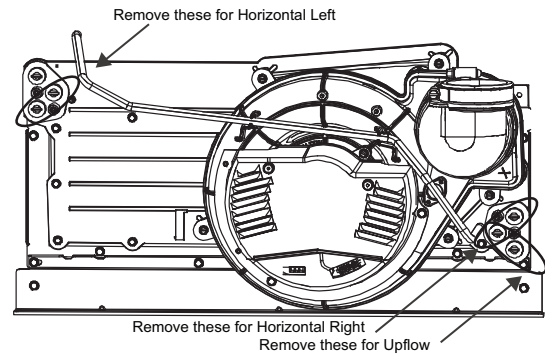

Fig. 13 – Drain Plugs
- Remove two of the factory-installed drain plugs from collector box. Orientation specific drain plugs, see Fig. 13.
4. Remove appropriate collector box drain plug, see Fig 13.